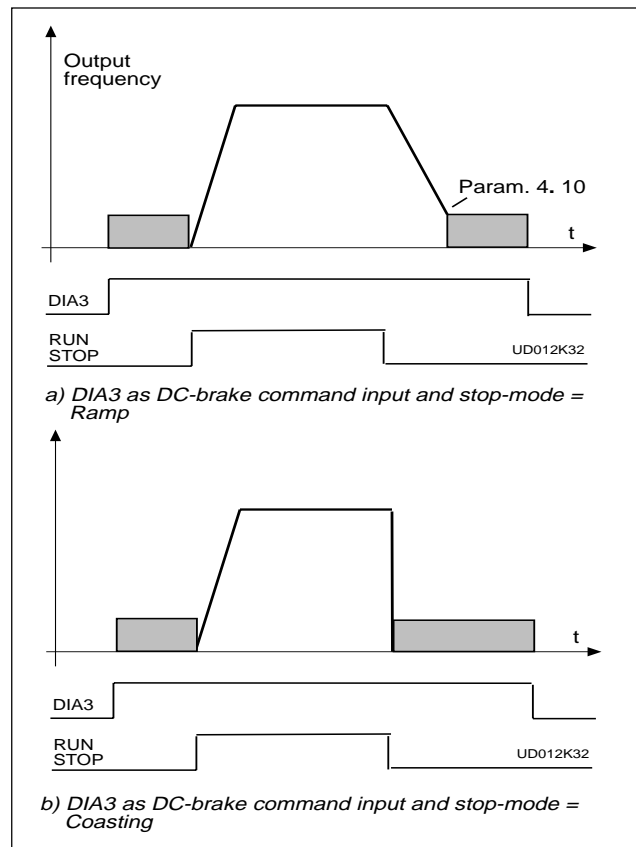

Figure 4.5-1 DIA3 as DC-brake command input:
- 9: DC-braking command contact closed = In the stop mode, the DC-braking operates until the contact is opened, see figure 4.5-1. DC-brake current is set with parameter 4. 8.
- 9: DC-braking command contact closed = In the stop mode, the DC-braking operates until the contact is opened, see figure 4.5-1. Dc-brake current is set with parameter 4. 8.